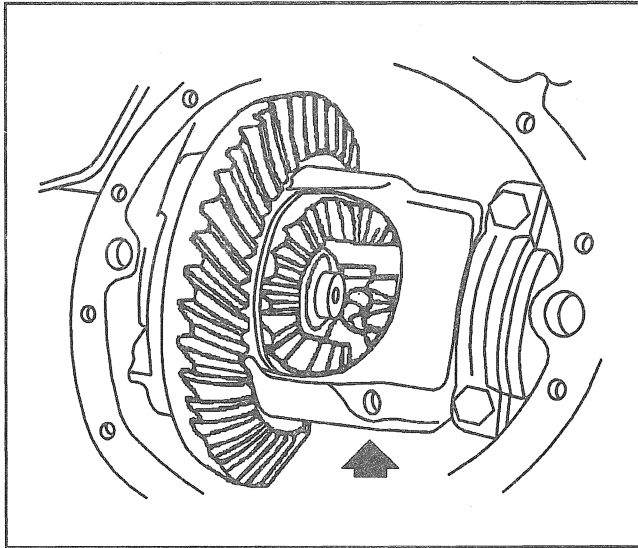

Figure 2—Pinion Shaft Lock Bolt
- 1. Differential cover bolts (14) and cover (12).
- 2. Pinion shaft lock bolt (15) (Figure 2).
- 3. Pinion shaft (17).
- 4. "C" clip (34) from the button end of the axle shaft (33).
- Push the axle shaft (33) in towards the center of the differential case (24).
- 5. Axle shaft (33) from the axle housing (1).
- 6. Seal (28) using an oil seal removing tool.
- 7. Bearing (27) using J 2619-01 and J 22813-01.
- 8. Pinion gear(21) and side gears (22).
- Roll the pinion gears out of the case with the pinion thrust washers (20).